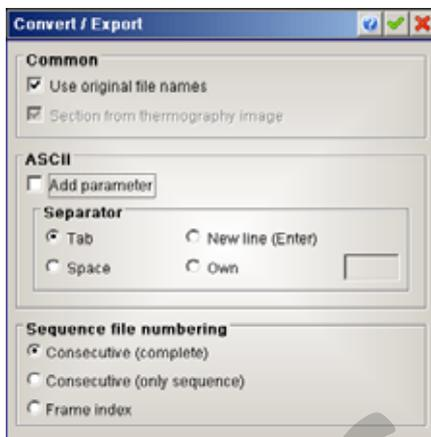

Fig. 153 Dialogue Convert/Export
- **ASCII**      Raw data will be saved unchanged as \*.asc-files. Available correction values will not be taken into ASCII files. For further settings, see Fig. 153.